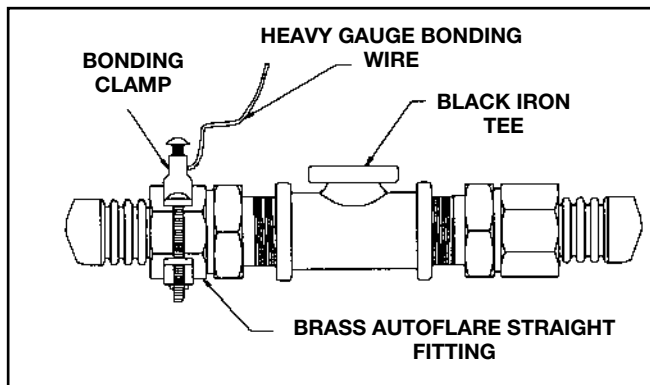

Figure: 4-56
1. When additional bonding of the **TracPipe® CounterStrike®**, yellow jacketed **TracPipe®** or **TracPipe® PS-II®** system is required by local codes, a bonding clamp must be attached to either the brass **TracPipe® AutoFlare® or AutoSnap®** fitting adapter Figure: 4-56, or to a black pipe component (pipe or fitting) within the gas piping system. The corrugated stainless steel portion of the gas piping system SHALL NOT be used as the bonding attachment point.